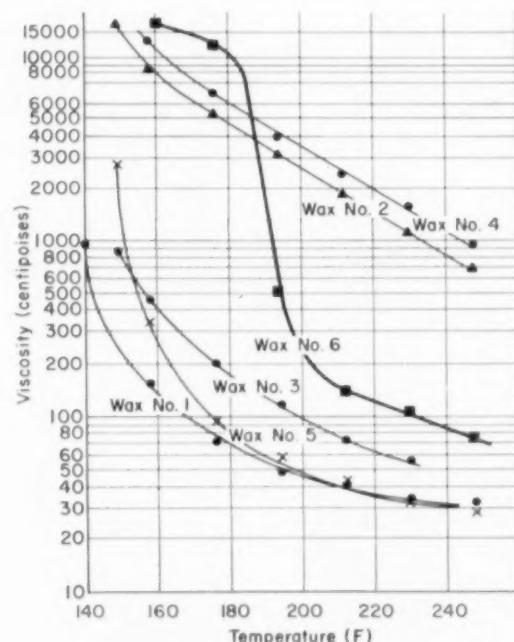

Fig. 2. Viscosity curves obtained for the six pattern waxes investigated show considerable variation.
**Viscosity:** Resistance to flow of molten wax is probably the most important factor influencing the temperature at which the wax is injected into a mold. Knowledge of the relationship between viscosity and temperature also indicates the extent of the "mushy" range. Results of the viscosity tests are shown in *Fig. 2*. As references, the viscosity of water at room temperature is about 1 centipoise; that of pure glycerine is about 629 centipoise; while that of castor oil is 451 at 30 C and 16.9 at 100 C.